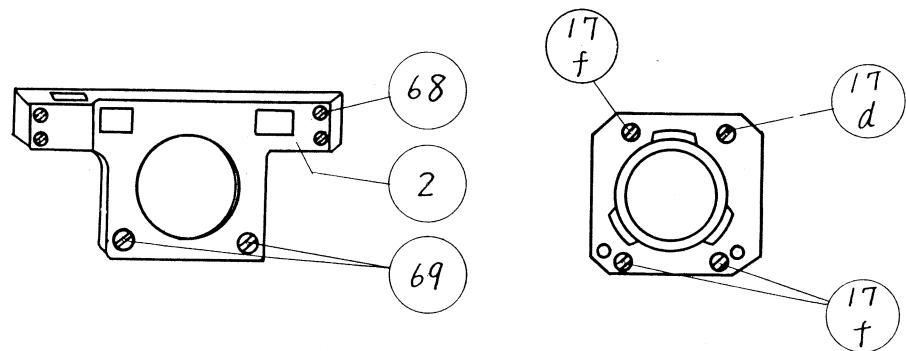

Fig. 1 Removal of Front Cover and Focusing Mount assembly
- (1) Remove the camera back. (Fig. 1)
- (2) Removing the front cover: